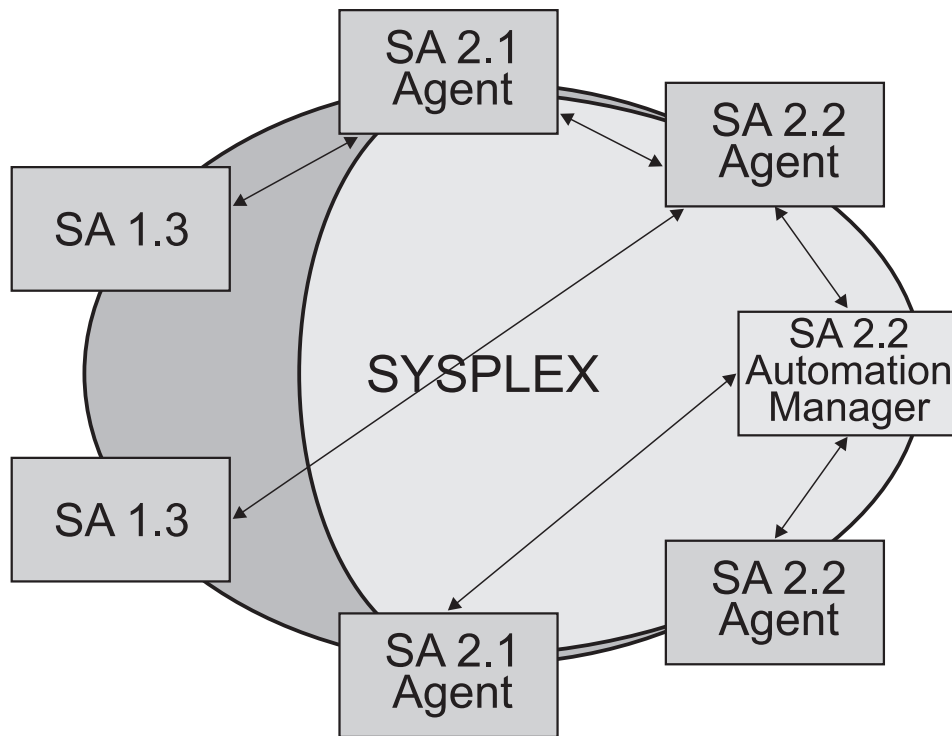

Figure 34. Coexistence of SA OS/390 1.3, SA OS/390 2.1, and SA OS/390 2.2
- SA OS/390 2.2 systems can co-exist with SA OS/390 1.3 and SA OS/390 2.1 systems within the same sysplex. Figure 34 on page 184 illustrates this: It shows a sysplex with six automated systems and a separate automation manager.